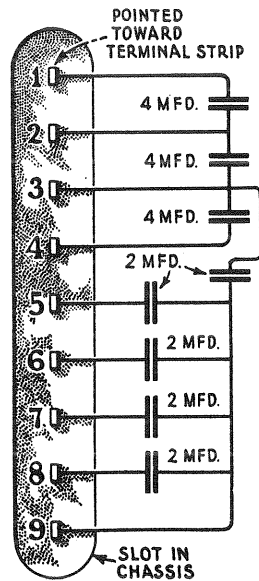

Figure 7—Filter condenser connections.
- (d) If no spark is obtained one of the two 4 mfd. condensers should be released separately from the circuit (see Figure 7) and the test applied to the one remaining. When the damaged condenser is released a good discharge will be obtained from the remaining condenser.